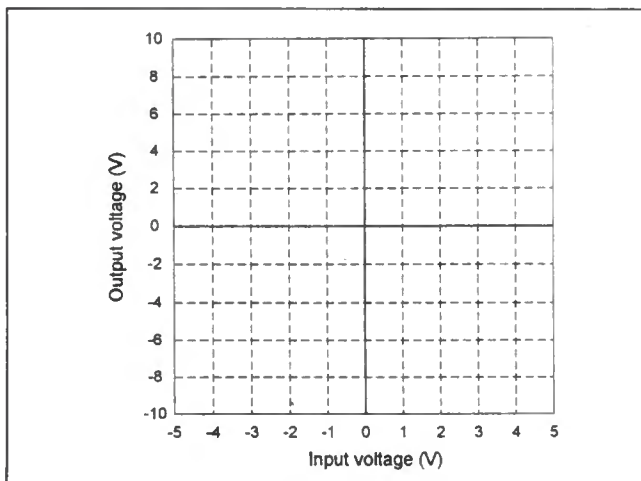

Fig. 5.9 Output voltage plotted against input voltage for the inverting amplifier  $R_F = 1k\Omega$ .
- to plot two graphs showing  $V_{OUT}$  plotted against  $V_{IN}$  for input voltages over the range  $-4V$  to  $+4V$ . One graph will be for  $R_F = 1k\Omega$  whilst the other will be for  $R_F = 2k\Omega$  (see Figs. 5.9 and 5.10).